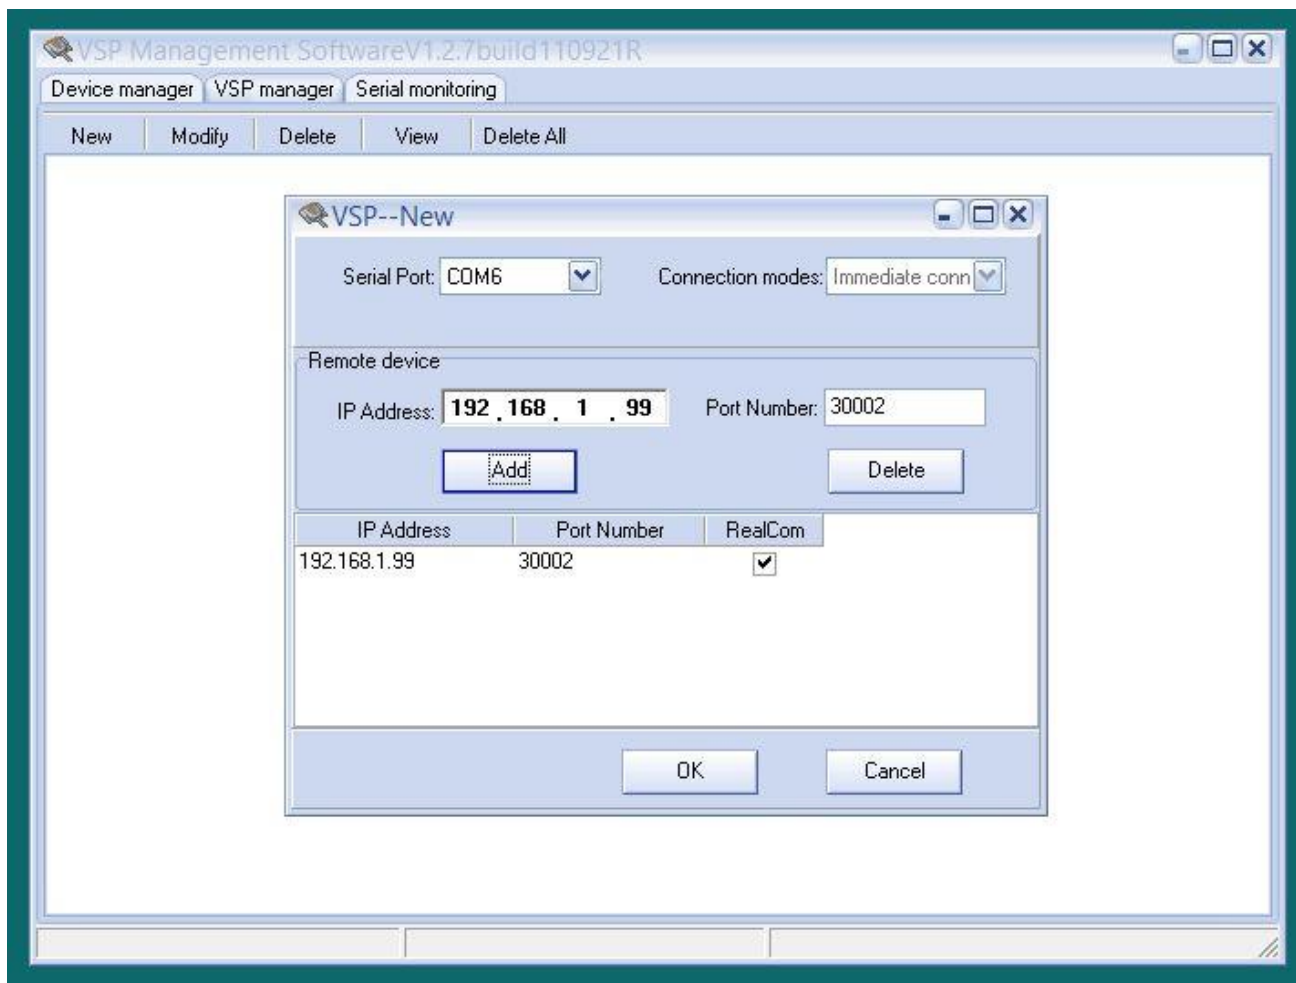

FIGURE 4.48 – VIRTUAL COM PORT SETTING
- 7) Next for the ETHERNET PORT we will be setting up a Virtual COM Port. Choose VSP Manager and then New. Select an unused COM Port. We are using COM 6. Select an unused port number. We chose 30002. Press ADD and make sure the RealCom option is checked. (SEE FIGURE 4.48).